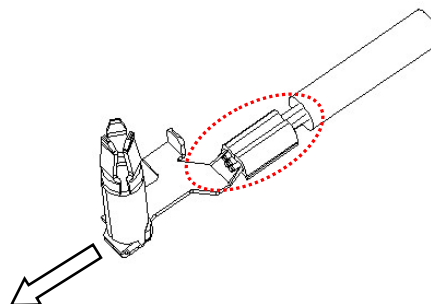

Fig. 11
- (e) When to separate parts apart, care must be taken not to jerk and pull forcefully with cross section area. (Fig. 11)